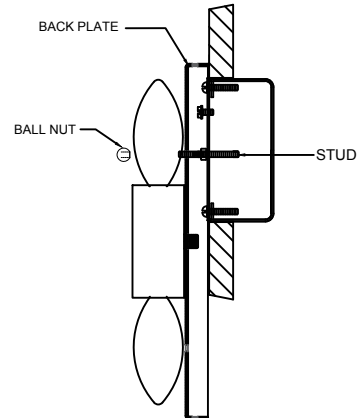

FIGURE-02
5. attach the back plate to the mounting ring and secure it with ball nuts through the studs. (See Figure-02)